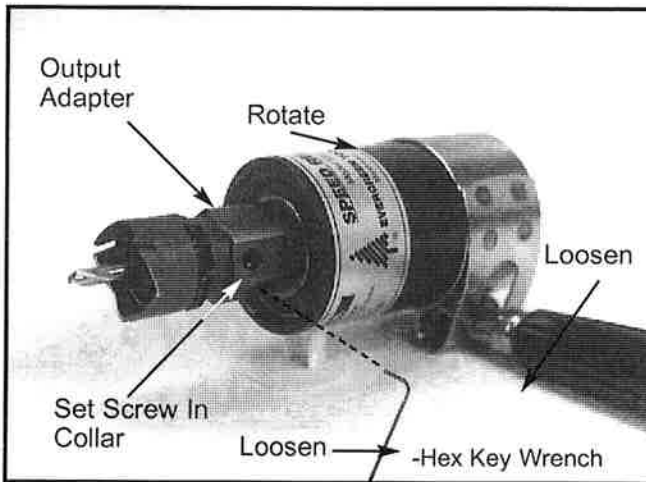

Fig. 8
2. Rotate ring gear housing with handle until set screw aligns with an access hole on the output adapter (**FIG. 8**).